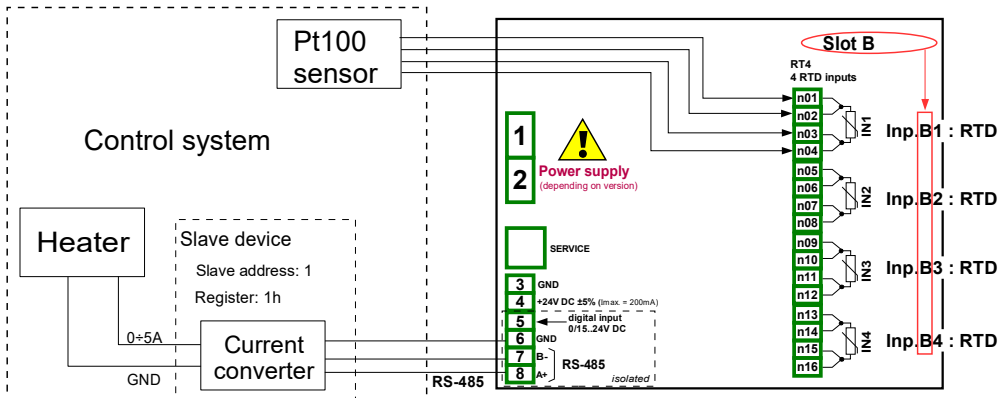

Fig. 7.78. Schematic diagram for the RT4 module and MB1 Modbus port
Before measuring and regulating the temperature, the user should configure the device as follows and then connect the RTD sensor and the Current converter to the device. An example of the connection is shown in **Fig. 7.78.**
- **Source** parameters set as **Inp.A1 : RTD** (see **Fig. 7.78**),
- **Precision** parameters set as **0.00** , because with this precision we can send a signal from the controller to the Current converter (see **Fig. 7.78**),